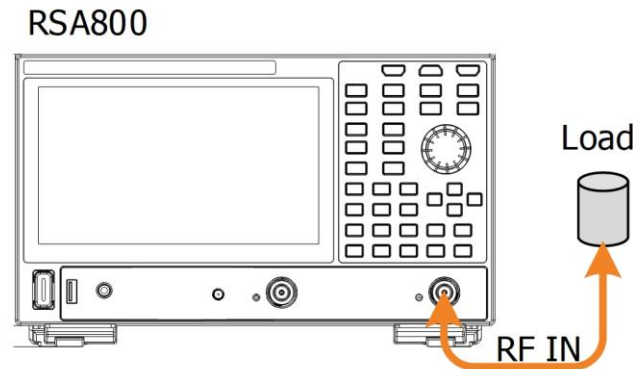

Figure 4.1 DANL Test Connection Diagram
1. Connect the 50 Ω matched load to the RF input terminal of RSA800, as shown in Figure 4.1.